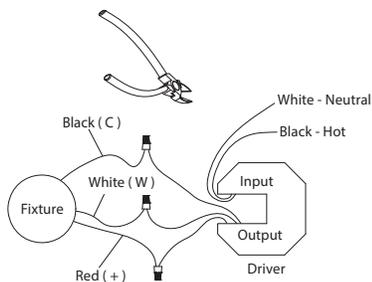

Fig. 4
9. Mount the canopy against the mounting plate. Secure fixture to the mounting plate using the mounting screws (C).
10. For sloped ceiling applications, rotate the swivel at the top of the rods to ensure luminaire is aiming down (Fig.4).